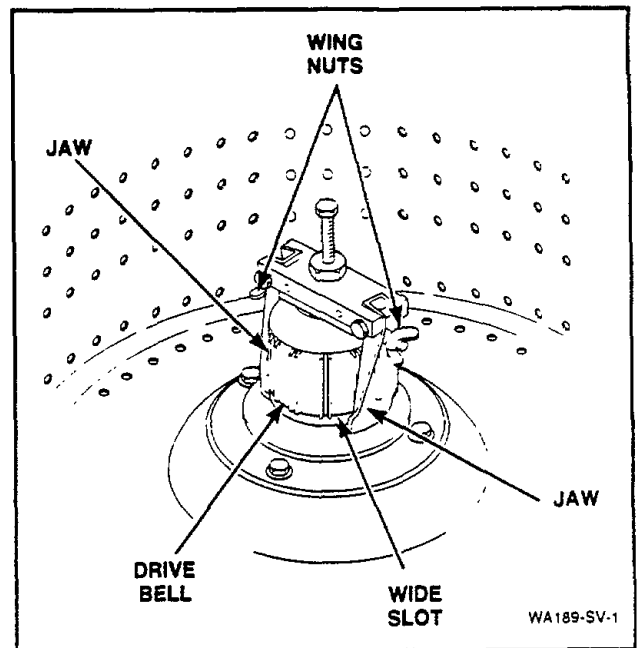

Figure 17
- Place the tool over the drive bell, making sure the indent on the jaws line up with the wide slots on the bell, *Figure 17*.
- Place the lip of each jaw under the bottom edge of the drive bell, making sure the indent on the jaws line up with the wide slots on the bell. Then tighten the two wing nuts to hold the jaws firmly against the drive bell, *Figure 17*.